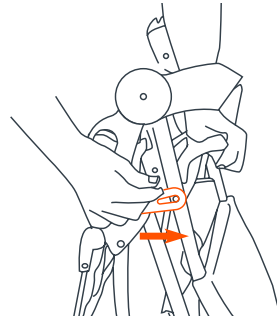
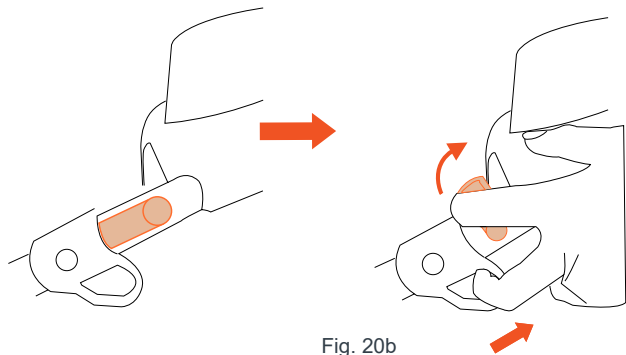

Fig. 20a
Fig. 20b
- Fold the stroller by unlocking the latch and pulling simultaneously both release triggers (Fig. 20a). Release the fold latches and pull on the stroller handle until the stroller is completely folded. Secure the stroller in the folded position by locking the fold latch, located on the right side of the stroller, over the rivet that protrudes from the frame (Fig. 20b).